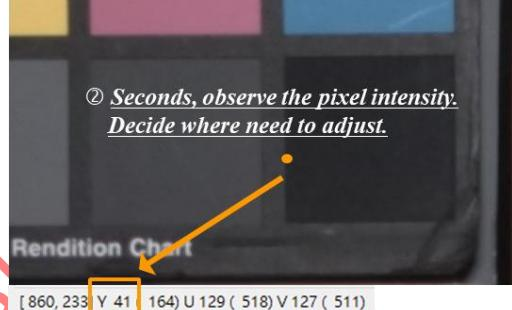

Fig. 5-109 The steps of the advance mode tuning.
- The steps of the advance mode tuning as Fig. 5-109.